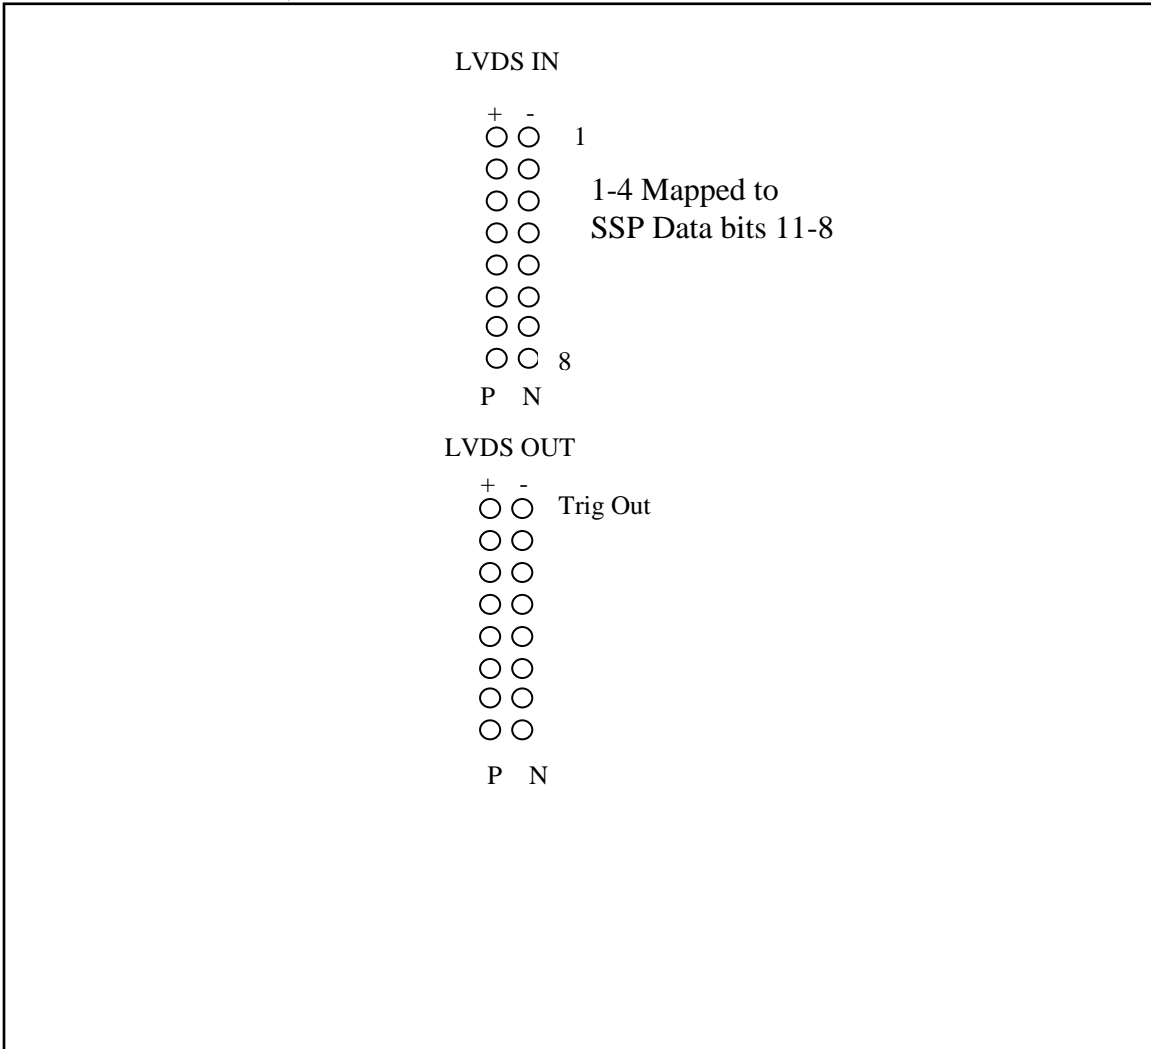

Figure 2: Example for one pair of FADC250 processing:
- 12.5 See Figure 2 for an example of processing